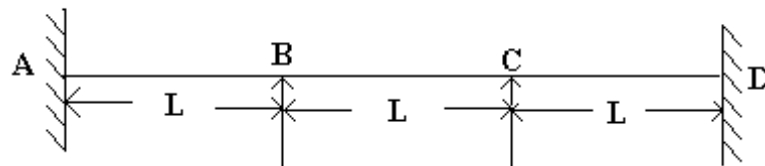

Figure 4:
8. Using the displacement method, analyse the three span continuous beam shown in Figure 4 if the spans AB and BC carry a u.d.l. of intensity “w” per unit length. Hence calculate the B.M. at B and C. [16]